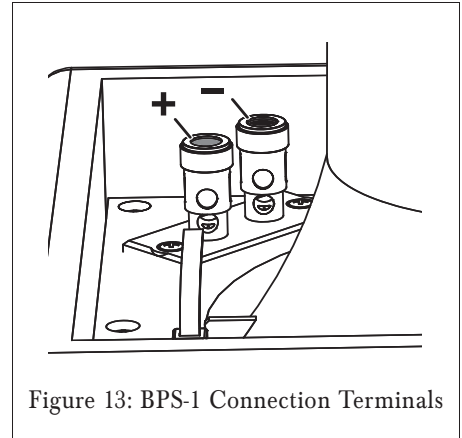

Figure 13: BPS-1 Connection Terminals
- The speaker's positive connector post is labeled with a red dot; the negative post is labeled with a black dot (see *Figure 13*). Push the top of each connector post down to open the connector and insert the exposed wires into the holes in the posts. Double-check that you connected amplifier "+" to speaker "+" and amplifier "-" to speaker "-".